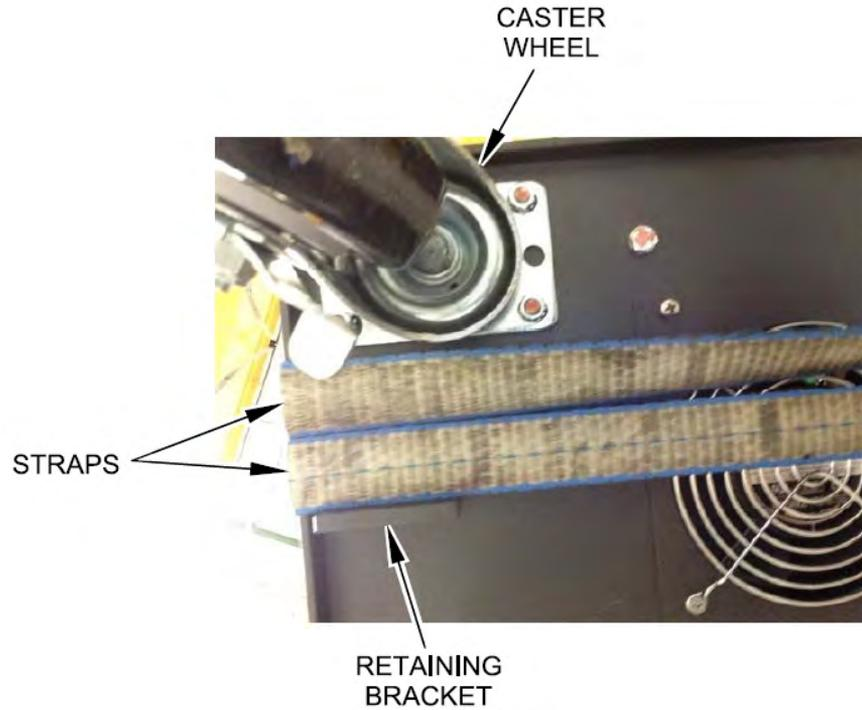

Figure 2-3 Straps - Correct Position
- 4. Make sure that the webbed straps go between the caster wheel and the retaining bracket. Refer to Figure 2-3.